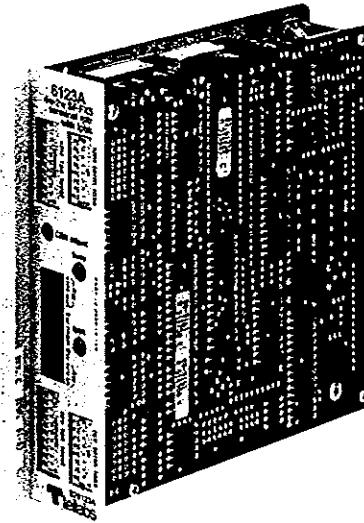

figure 1. 6123A 4Wire-to-2Wire SF-to-FXS
1.01 The 6123 and 6123A 4Wire-to-2Wire SF-to-FXS Terminal Repeater modules (figure 1) each provide active transmission interface and bidirectional signaling conversion between a 4wire facility that uses 2600Hz single-frequency (SF) signaling and a 2wire metallic link (station loop or PBX trunk) that uses foreign-exchange station-end (FXS) loop signaling. This type of loop signaling is normally associated with the station end of both foreign-exchange (FX) and off-premises-station (OPS) circuits. Unlike the 6123, the 6123A contains transmission and signaling loopback circuitry to facilitate local or remote testing of the module and the facility. As members of Tellabs' 262 Network Channel Terminating Equipment/Data Station Termination (NCTE/DST) System of modules and enclosures, the 6123 and 6123A each fulfill Registered Facility Interface Codes OC13A, OC13B, OC13C, OL13A, OL13B, and OL13C for applications where the serving telephone company uses facility-side SF signaling.